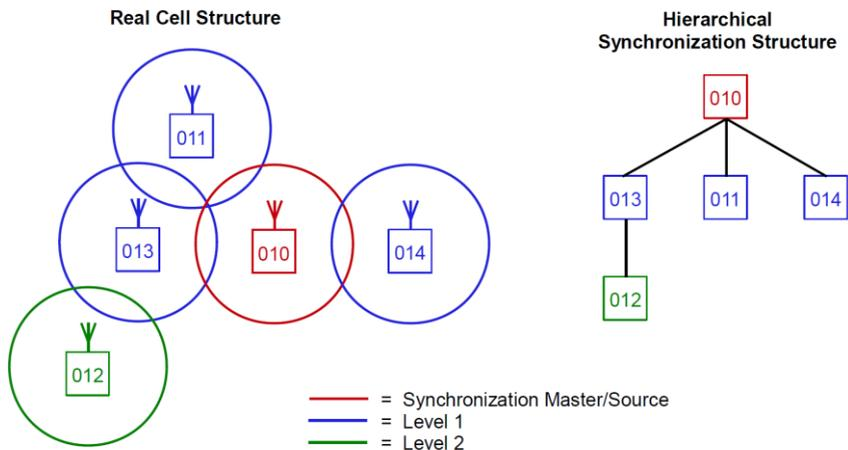

Figure 3: DAP Synchronization Structure
In Figure 3: DAP Synchronization Structure you see an example of a simple DAP structure. When the system starts up, the DAPs try to synchronize to the DAP with the lowest RPN. For DAP 010 it means that it will become the synchronization source! The DAPs with RPNs 011, 013 and 014 will synchronize to RPN 010. However, RPN 012 will synchronize to RPN 013 although RPN 013 is a higher number. Finding a synchronization source is not limited to one level deep only. DAP 012 knows that DAP 013 is synchronized to a DAP (010) that has a lower number than itself. Therefore DAP 012 will synchronize to DAP 013, because it is aware that DAP 013 gets its source from a DAP with a lower number.